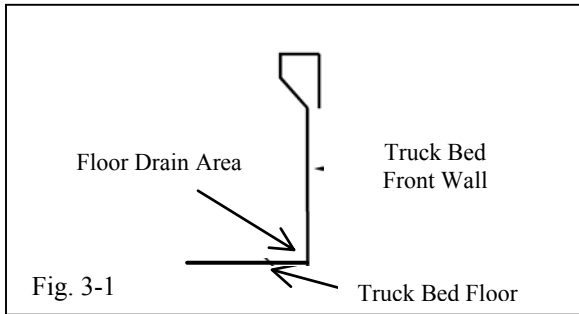

Fig. 3-1
- (1) The floor drains (gap between header panel and floor panel) must be clear to ensure proper drainage and ventilation. (Fig. 3-1)